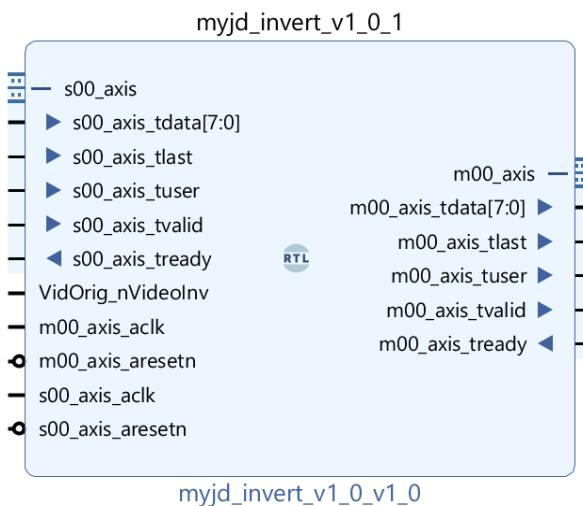

Figure 12. Overview of inversion component
- 1) To manually generate an IP including an AXI4-stream interface. This IP aims to be include between the “Video In to AXI-stream” and “AXI-stream to Video Out” controllers. The component deals with the control signals to receive the data stream from the first controller, invert the grey-level and the control of the signals to transfer the result data stream to the second controller for the display. Described a VHDL component that includes the ports as depicted in figure 12. The module should include a slave AXI4-stream interface (s00\_axis) and a master a master AXI4-stream interface (m00\_axis). Please refer to the furnished documentations (ug761 and pg085) if necessary. Moreover, your design should include an input VidOrig\_nVideoInv that enable the pixel inversion to be selected (or not). The signal should be connected to the external switch SW1 available on the evaluation board. After the IP validation, include this component into the video chain which has been validated in Part 2. Do to so, right click on the vhdl file, and select the “Add Module to Block Design”. Connected the IP and generate the new architecture and then validate.